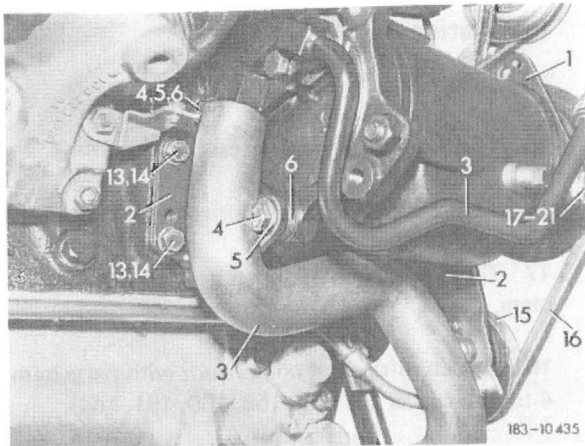

Fig. 161
10 Unscrew screws (11 to 13) for carrier (2) on crankcase (Fig. 161, 164, 165).
13 Unscrew screws (4 and 7) and remove refrigerant compressor from carrier, while paying attention to spacing rings (6) (Fig. 161, 166).
19 Attach refrigerant compressor with carrier by means of parts item 11 to 14 to crankcase, but do not yet tighten (Fig. 161, 166).